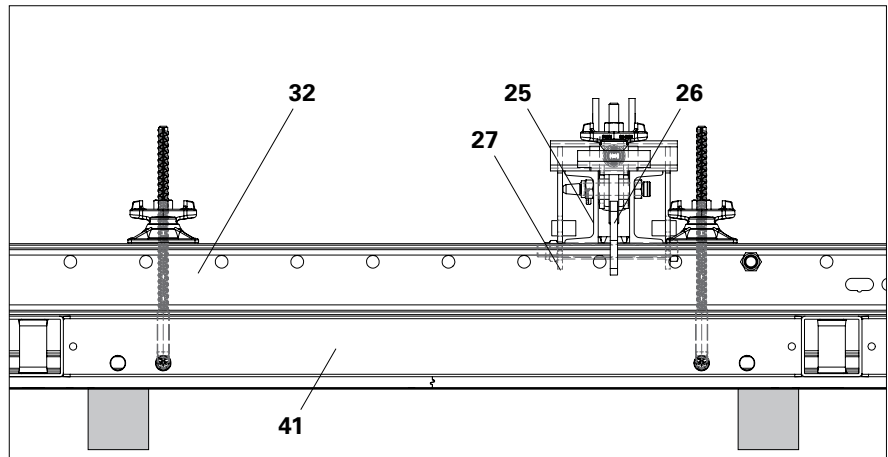
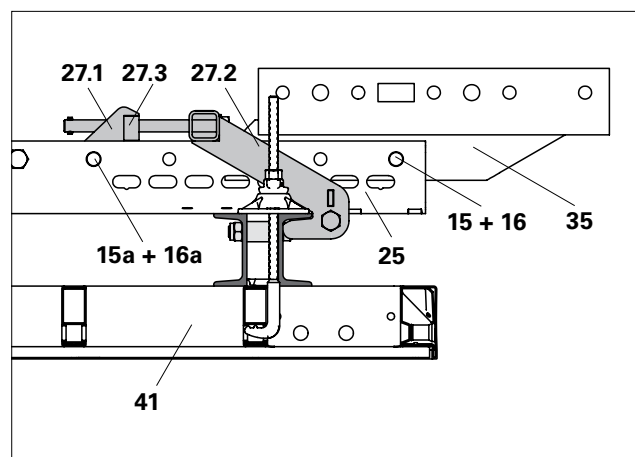

Fig. C1.01b
Fig. C1.01d
2. Position the Strongback SRU (25) on the waling (32) according to the planning.
3. Clamp the Strongback to the waling at the top (32) using the Waler Fixation SRU (26).
- (Fig. C1.01b + C1.01c)
5. If the Crossbeam Head RCS/VARIO is used: mount the Strongback Adapter (35) to the Strongback using fitting pins  $\varnothing$  21 (15) and cotter pins 4/1 (16).
- (Fig. C1.01d)